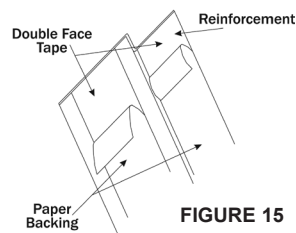
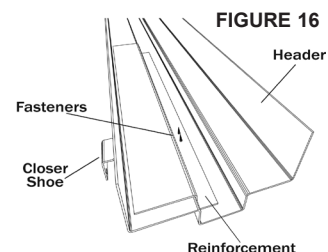

FIGURE 15
FIGURE 16
2. Expose double face tape by removing paper backing on two strips of tape (Figure 15) and press into position to secure the sleeve to the header (Figure 16).